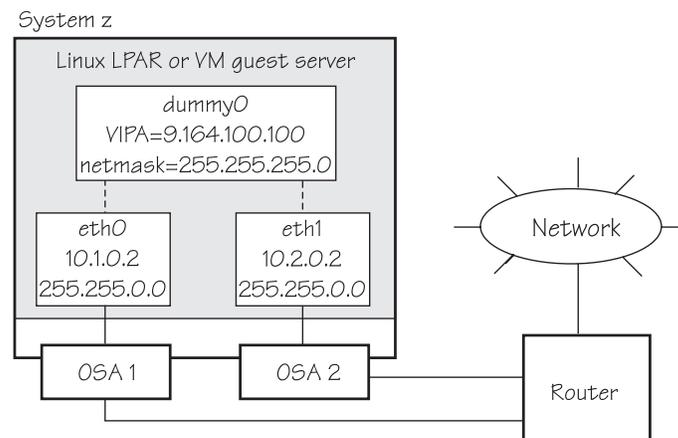

Figure 23. Example of using Virtual IP Address (VIPA)
- Static routing (shown in the example of Figure 23 on page 123).
Figure 23 shows the network adapter configuration used in the example.